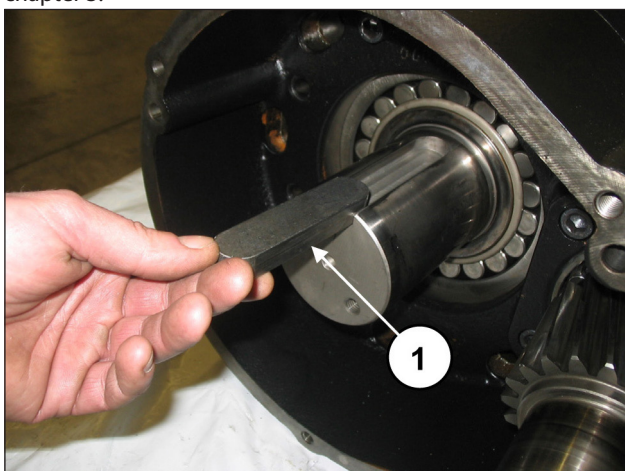

Fig. 62
Apply tab 22x14x100 in the shaft housing (pos. ①, Fig. 62) and insert the ring gear on the shaft.